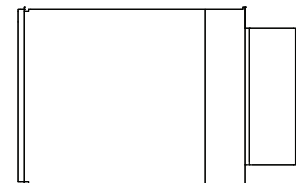

Figure 57 - Adjustable length, INSTALLATION STEP F
5. **Installation steps** (see **Figure 57**):
- f. Move down the sliding section of the outer wall to the flange of the female coupling and install the locking band as described in section A: Chimney and fitting joint assembly. See **Figure 57**.